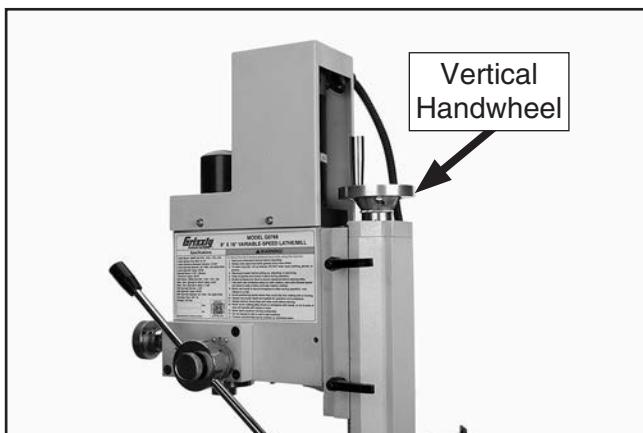

Figure 105. Location of Z-Axis handwheel.
3. Use vertical handwheel shown in **Figure 105** to adjust headstock height.
1. Use vertical travel handwheel (see **Figure 105** on next page) to adjust cutting tool just above workpiece surface, then secure the headstock with Z-axis lock levers.